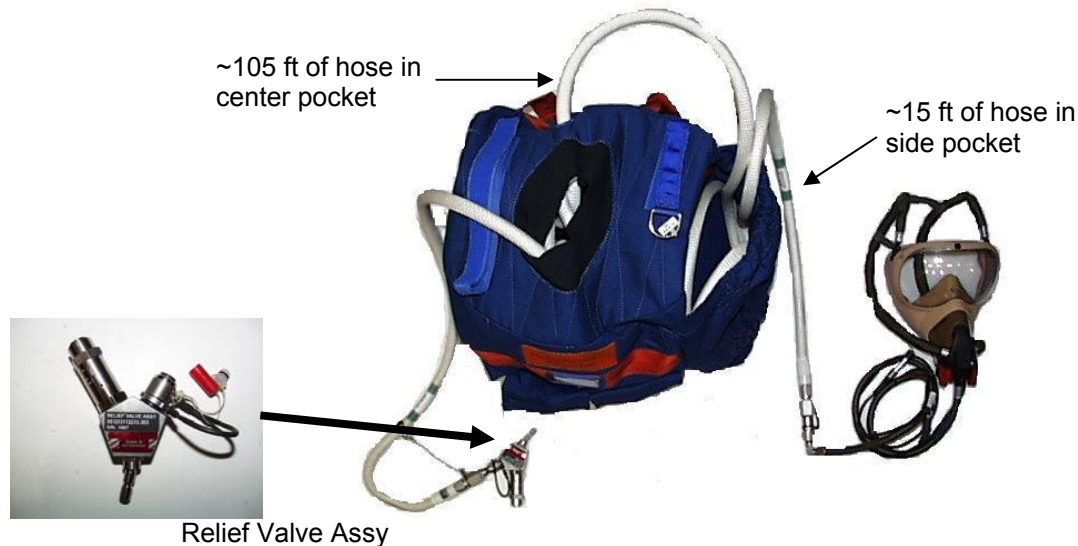

Figure 1.- Prebreathe Hose Assembly (PHA)
61. ✓PHA configuration (2 PHA bags) per figure 1 below